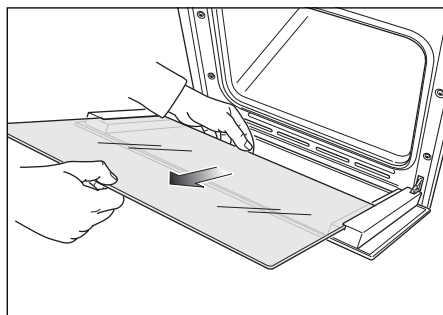

Fig. 21e
- Gently pull out the inner pane of glass (Fig. 21e).